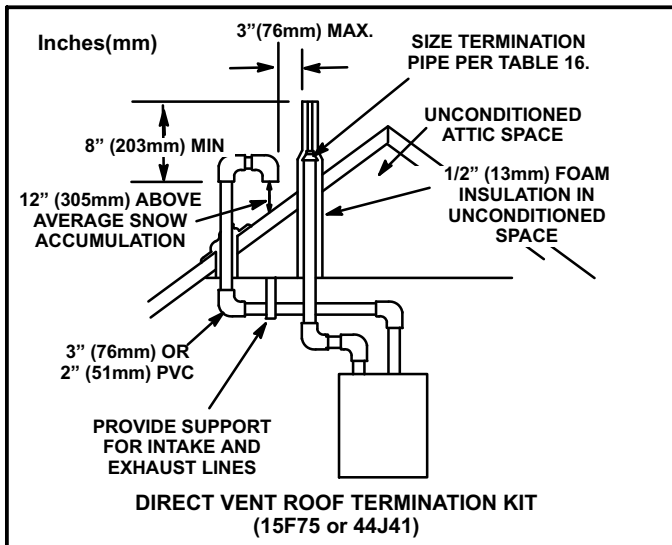

FIGURE 35
Intake and exhaust pipes may be routed either horizontally through an outside wall or vertically through the roof. In attic or closet installations, vertical termination through the roof is preferred. Figures 35 through 42 show typical terminations.
3. On roof terminations, the intake piping should terminate straight down using two 90° elbows (See figure 35).